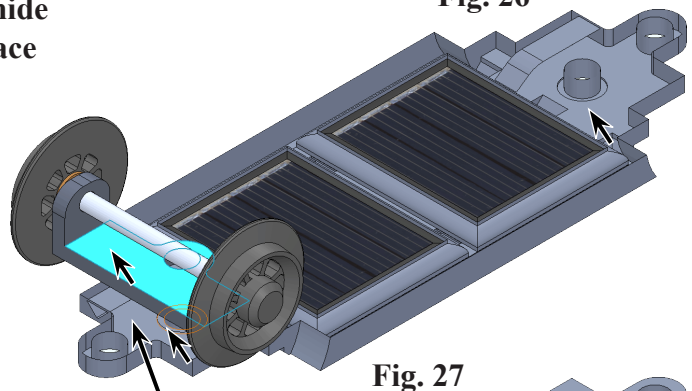

Fig. 27
Step 4. Click **top face of Bogie Bracket** and **hide top face of Deck**, then click **bottom face of Pin space Extrude in Deck**, click **chamfer at end of hole in Wheel**, **Fig. 27**. To hide face, hover cursor over face and press **Alt** key.